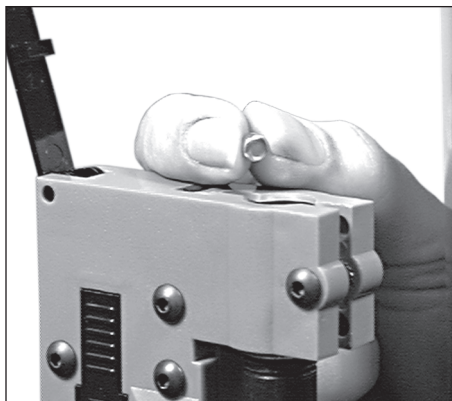

FIG 129
2. Place five or six primers into the primer magazine shiny side down FIG 129.